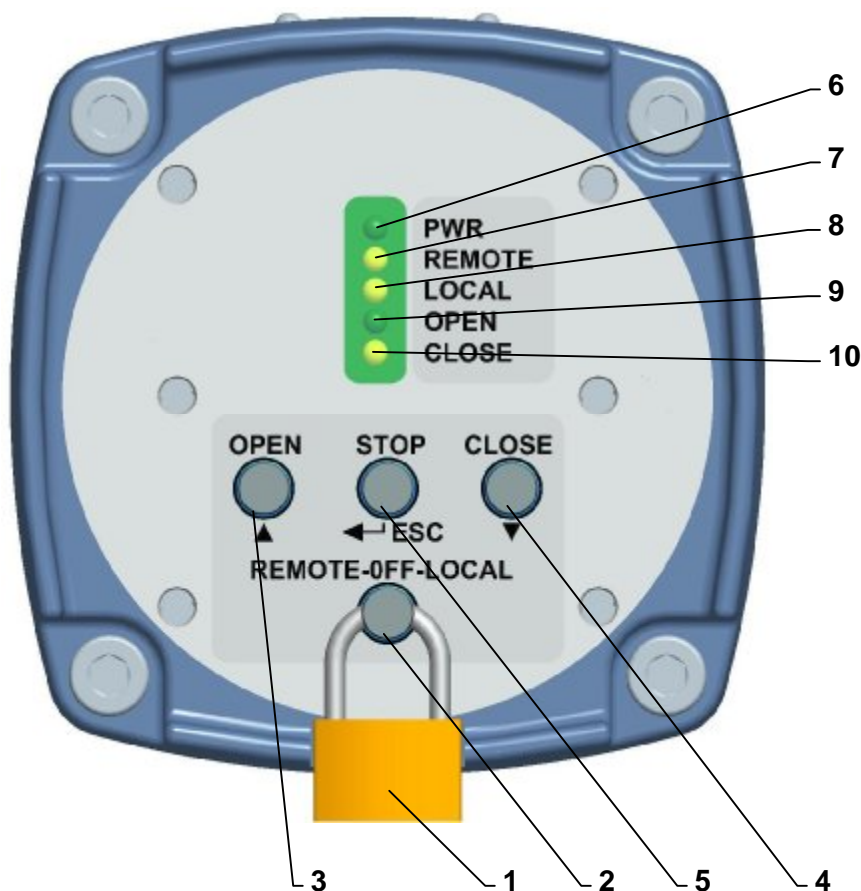

Fig. 15
4.8 Electric local control (Fig.15)